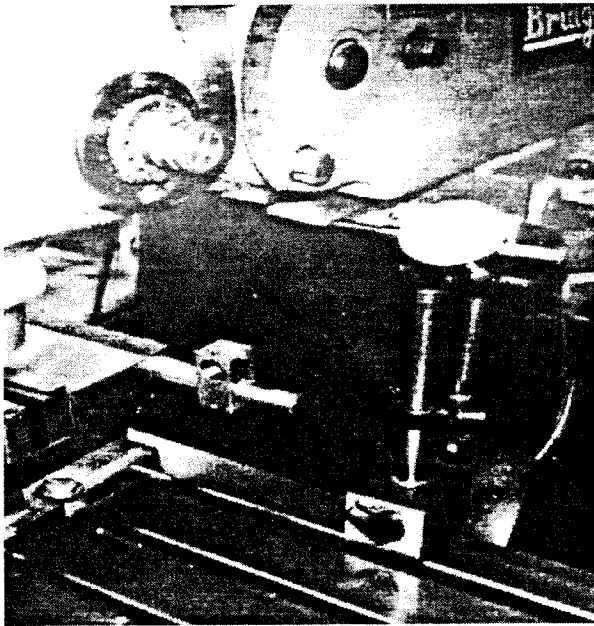

Figure 2
15. Using an indicator, rotate the turret and indicate using the X-axis until this wall is parallel with the X axis **See Figure 2.**